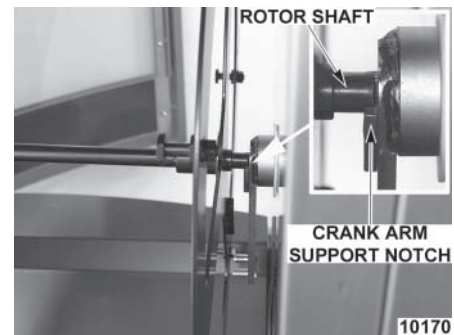

Fig. 5
STEP 3: Place the drive side of the rotor shaft on the drive arm support notch (Fig. 5).